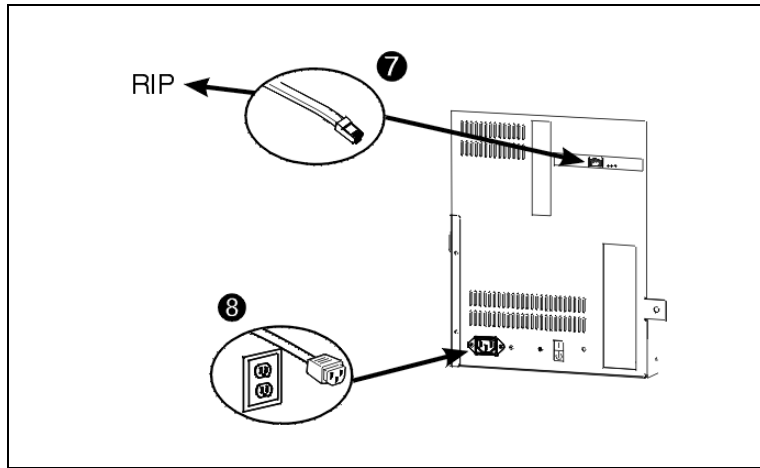

Fig. 1-4. Power and RIP connections
Connect the power cord ⑧ from the printer's power inlet to a standard wall outlet. Non-U.S. installations may require one of the included power plug adapters. Refer to Fig. 1-4 for the locations of the printer power inlet.
Connect the printer to the print server with the included VideoNet (for ColorSpan print servers) or Ethernet cable (non-ColorSpan RIPs) ⑦ (see Fig. 1-4).